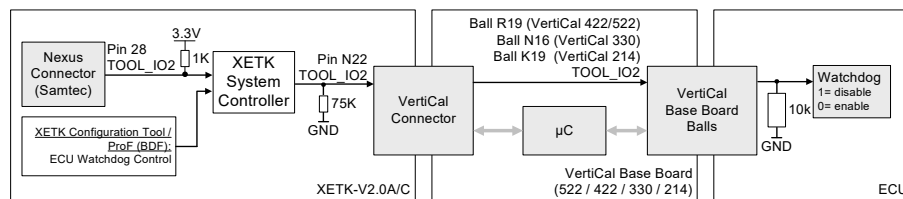

Fig. 4-14 Equivalent Circuitry of the XETK-V2.0A/C WDT Interface via VertiCal (BGA)
The watchdog disable control signal is available on the VertiCal connector on signal TOOL_IO2 (pin N22). This signal is routed directly to a ball of the BGA VertiCal Base Board, completely bypassing the microcontroller on the VertiCal Base Board. The ECU receives the signal on the TOOL_IO2 optional ball. Each microcontroller package has a unique ball number for TOOL_IO2, see Fig. 4-14 for listing of ball numbers and package information.
- When the external WDT disable function is required, a 10 kOhm pull-down resistor on TOOL_IO2 is required (refer to Fig. 4-14).